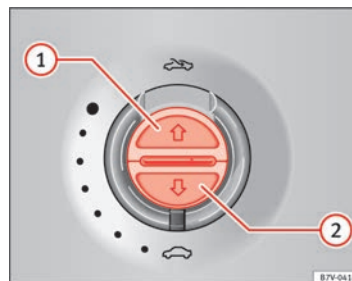

Fig. 59 On the interior roof lining: switches for the sun blind
To open completely (automatic):	Press the button ⇒ Fig. 59 1 briefly.
- *Sun blind*: Within five seconds of triggering the anti-trap function, push the ⇒ Fig. 59  button until the sun blind closes completely.